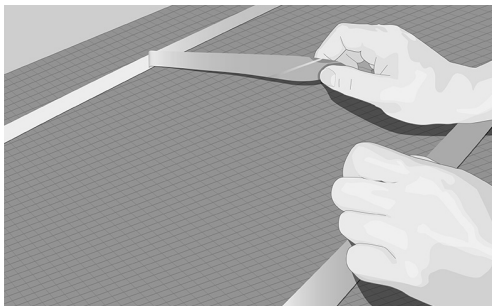

Fig. 10. Apply double-sided adhesive tape and remove the backing
8. Use double-sided adhesive tape hot melt glue or any other suitable product to attach cable to the floor surface at 30-40 cm intervals so that this is fastened sufficiently (Fig. 10).